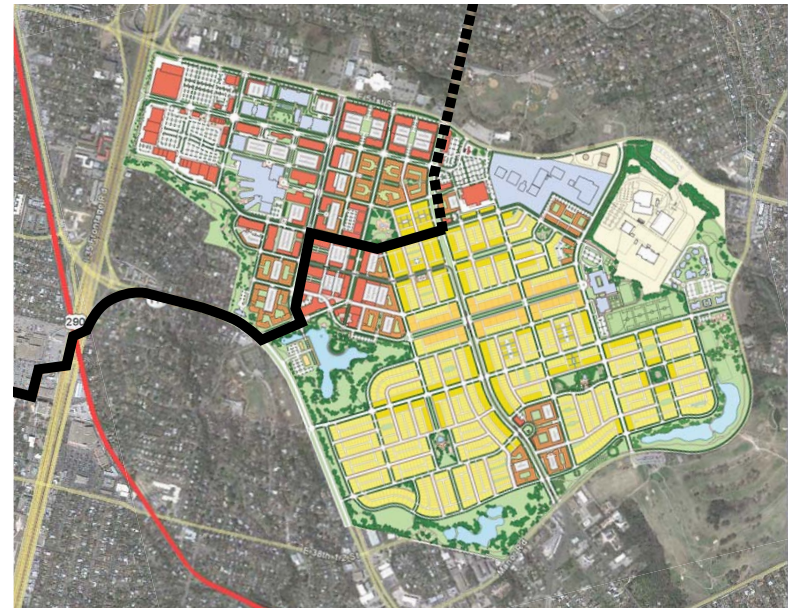

Figure 10:
- The City's Urban Rail plan is exploring the feasibility of a Mueller rail alignment that will terminate in the vicinity of Berkman Drive and Philomena Street, but that could in the future extend northward on Berkman through Windsor Park to a park and ride station along US 290 (Figure 10).